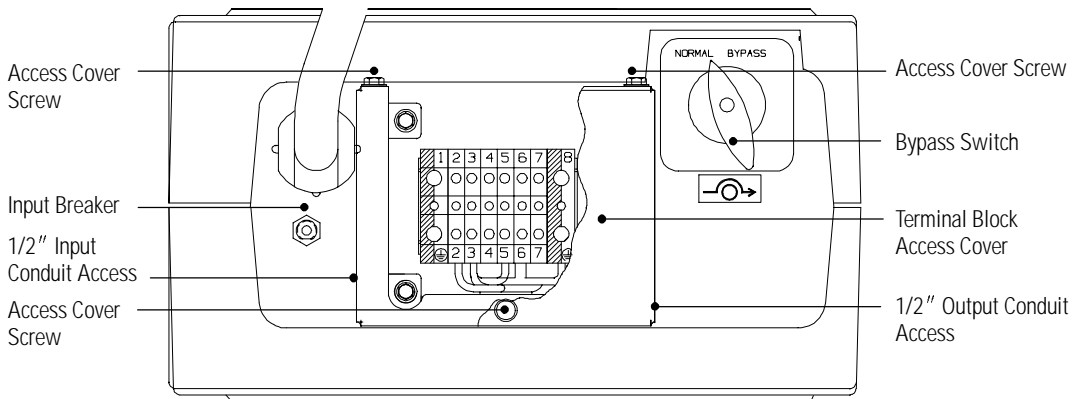
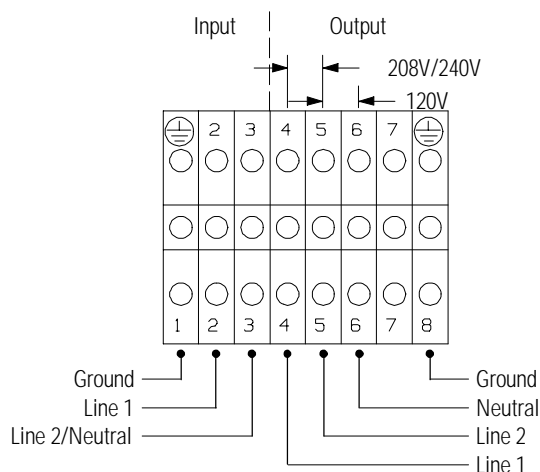
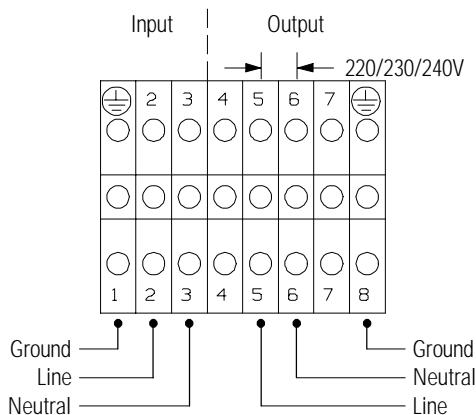

Figure 11. UPS with Hardwired PowerPass Module Rear Panel
Figure 12. 60-Hz Hardwired PPDM Terminal Block
Figure 13. 50-Hz Hardwired PPIM Terminal Block
17. Remove the three screws on the terminal block access cover with a Phillips screwdriver and remove the cover (see Figure 11).
18. Connect standard half-inch conduit through the terminal access box (see Figure 11) and hardwire to the terminal block. See Figure 12 for the 60-Hz hardwired PPDM wiring or Figure 13 for the 50-Hz hardwired PPIM wiring.